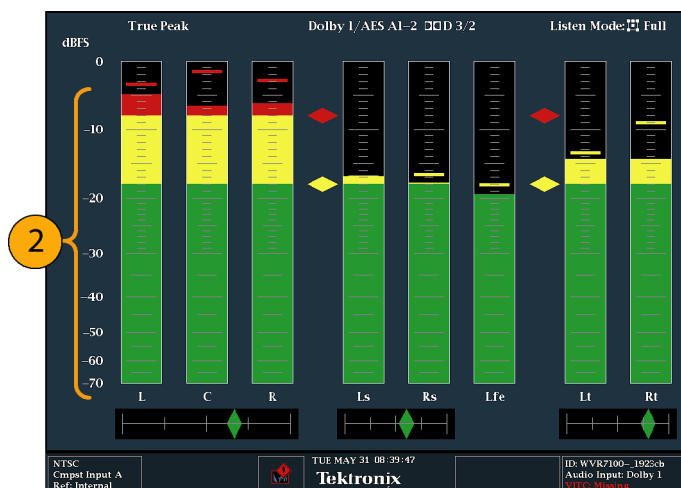

Figure 73: Audio levels
2. Check the level meter bars for current audio levels, which are displayed according to the selected meter ballistics. Each bar displays three colors. (See Figure 73.)